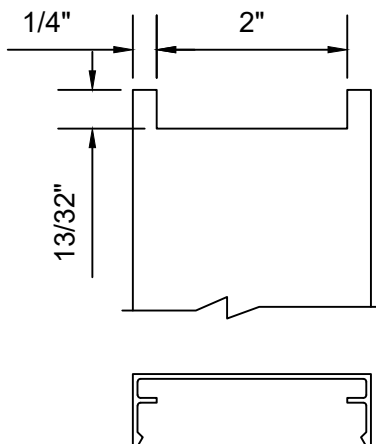

FIGURE 10
- 10) WW-216 face cap will be notched to wrap around anchors. Face cap will be spliced at each anchor. SEE FIGURE 10 for face cap fabrication.